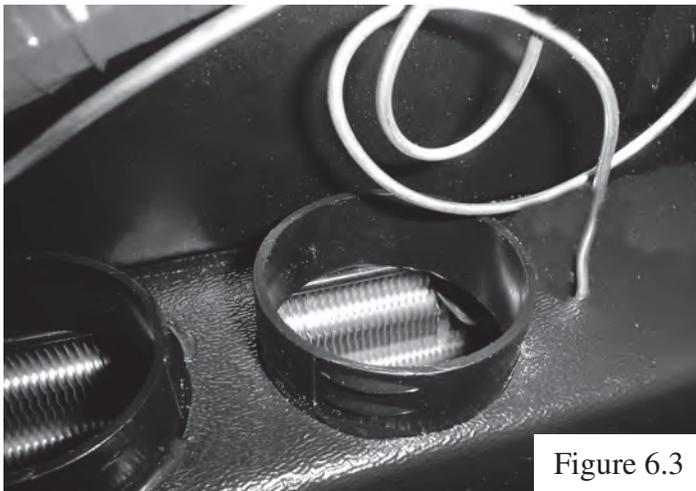

Figure 6.3
- 3) Before attaching the vent duct hose to the evaporator the thermostat probe must be inserted into the evaporator core. There is a hole next to a vent hose outlet on the evaporator. The probe should be inserted in the hole then pushed into the core through the vent hole. The probe needs to be inserted an inch to an inch and a half. Figure 6.3